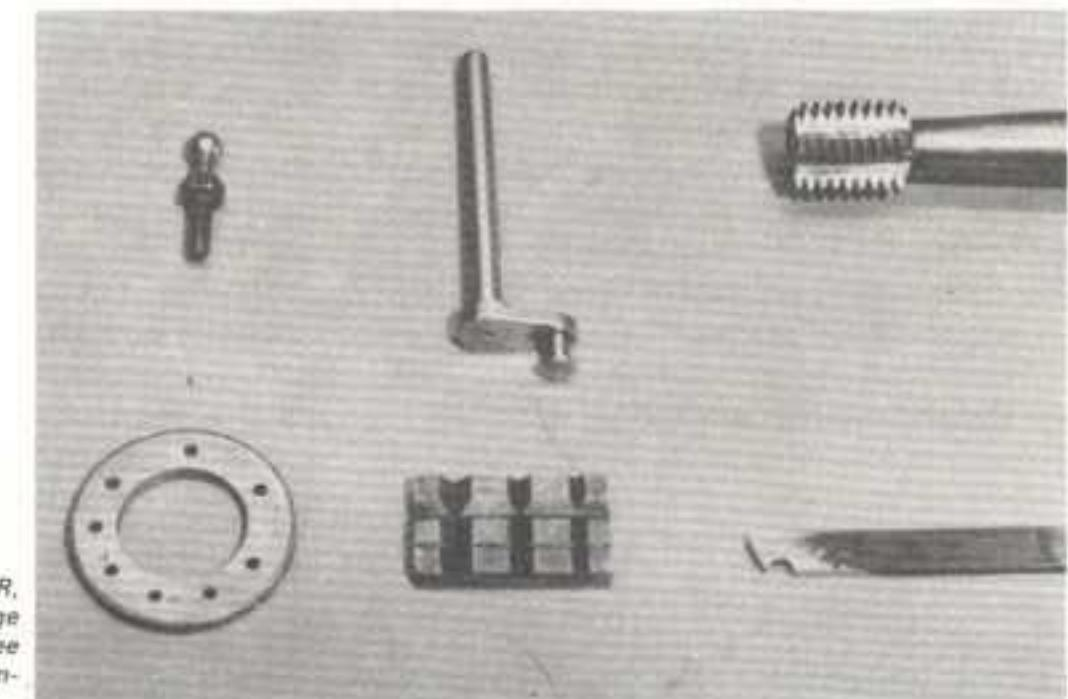

Fig. 39 Casehardening. L to R, top: Pivot pin; engine crank; large special tap. Bottom: drilling jig; vee jaw for machine vice; special form tool.
**Examples.** Fig. 39 shows a few examples. Top left is a ball-joint made to replace the carburettor control on an ancient motor-car. Bright drawn hexagon bar was used and finish machined completely before hardening. The thread was protected with thin iron wire and whitening, and only the ball end was dipped in Kasenit No. 1. It was quenched direct after the second application. Centre top is the crankshaft for a model steam engine (the "Williamson") with a hardened crankpin. In this case the bearing surface was finished to dimension, but the stem which fits into the web was left 1/32 inch oversize. The workpiece was not parted off from the stock at this stage. The bearing was given the Kasenit treatment twice, being dipped into the compound only sufficiently to cover it. After cooling slowly the rest of the machining was com-